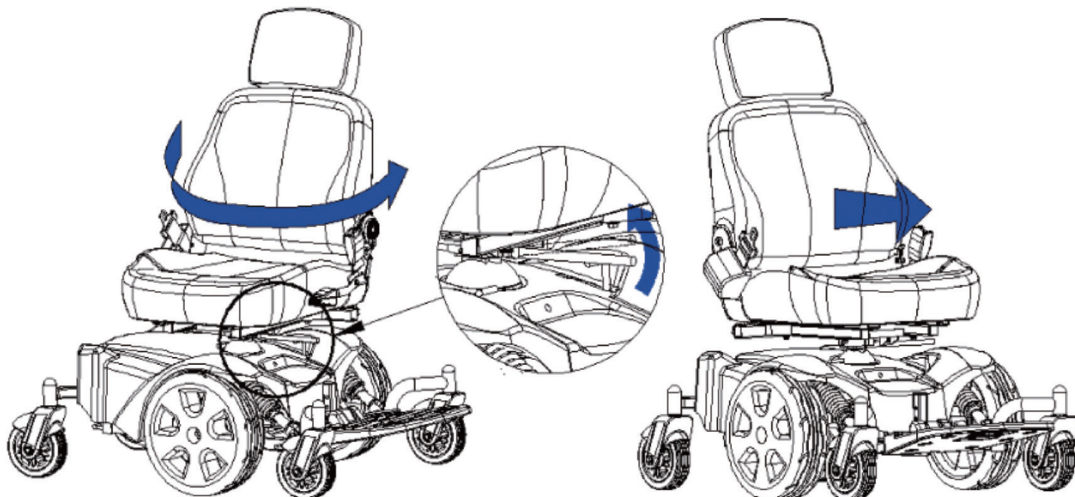

Figure 12. Release the seat lever, then swivel the seat forward
4. Pull the seat lever and keep it up, then swivel the seat forward. (See figure 12)
4. Disengage the seat release lever. (See figure 12)